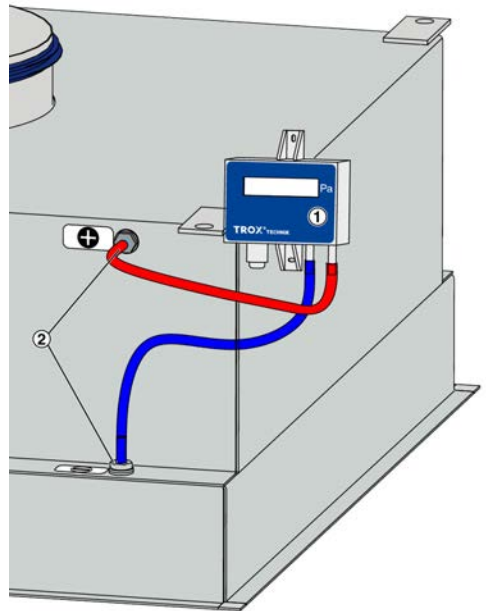

Fig. 8: TROX MD-DPC connection
**Permanent measurement:** Continuous differential pressure measurement and monitoring of the final differential pressure. This is done with a static differential pressure measuring device (Fig. 8/1), e. g. with TROX measuring devices MD-UT, MD-APC or MD-DPC, using the pressure measurement points at the side or at the top of the casing (Fig. 8/2).